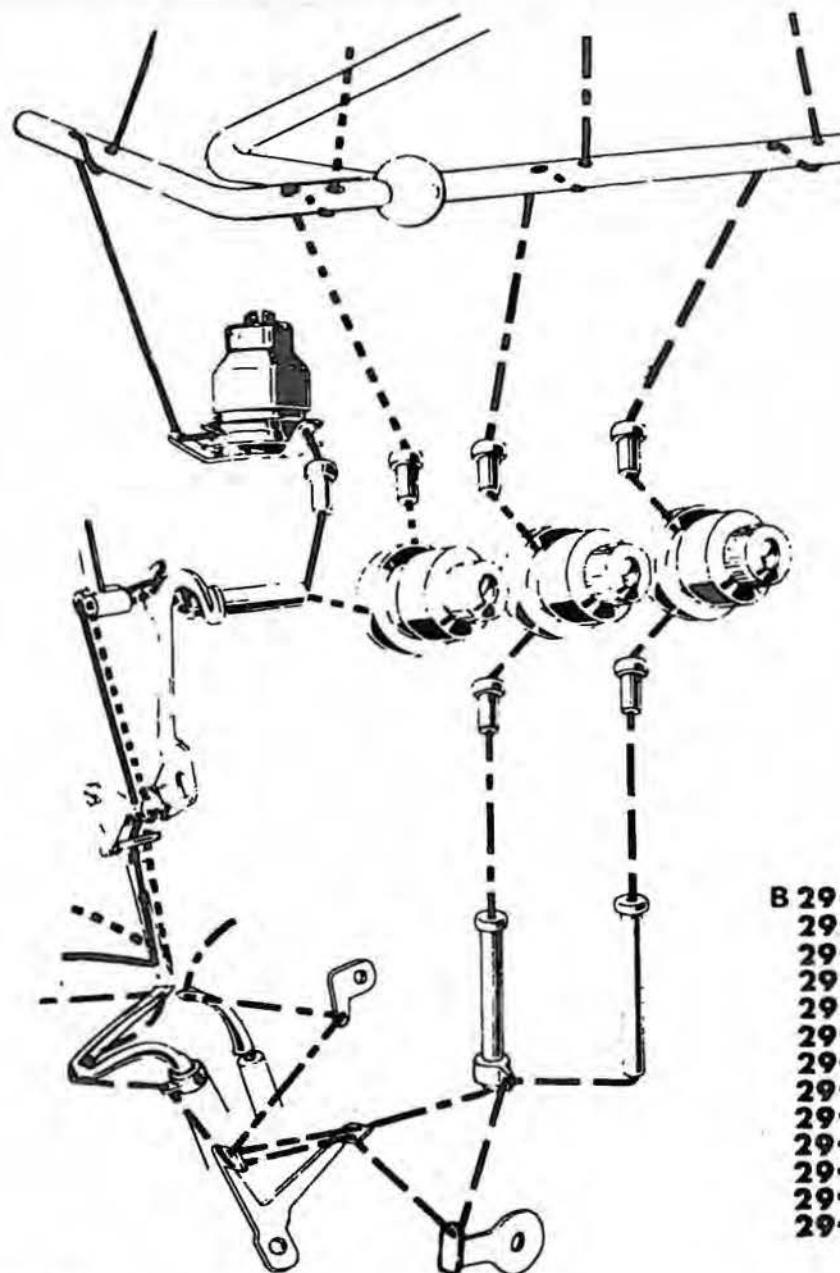

fig. 21
- 1 - Tighten the tension discs (fig. 21) sufficiently as to permit a regular stitch formation.